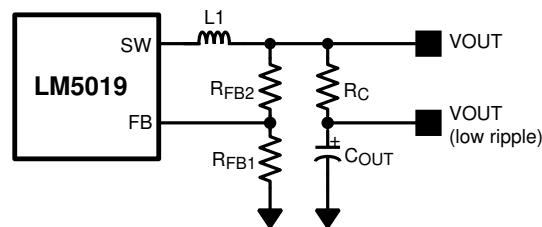

图 7-1. Low Ripple Output Configuration
This regulator regulates the output voltage based on ripple voltage at the feedback input, requiring a minimum amount of ESR for the output capacitor (C_{OUT}). A minimum of 25 mV of ripple voltage at the feedback pin (FB) is required for the LM5019. In cases where the capacitor ESR is too small, additional series resistance can be required (R_C in 图 7-1).
For applications where lower output voltage ripple is required, the output can be taken directly from a low ESR output capacitor, as shown in 图 7-1. However, R_C slightly degrades the load regulation.